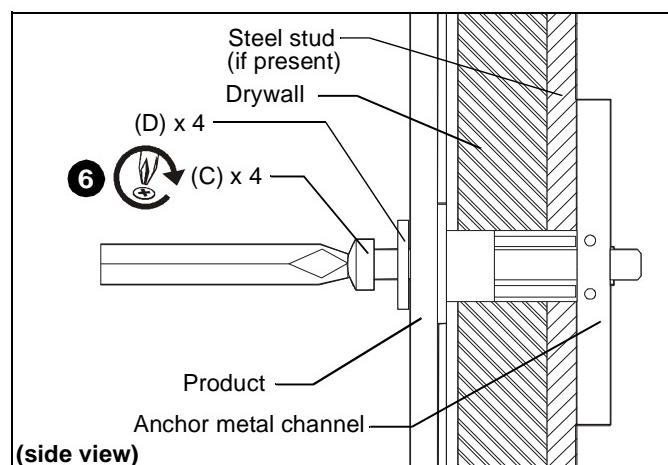

Figure 23
6. Insert 1/4-20 x 1-3/4" Phillips pan head screw (C) through 1/4" washer (D), corresponding mounting hole in product and into anchor (E), and tighten until flush against product. DO NOT over tighten! (See Figure 23)